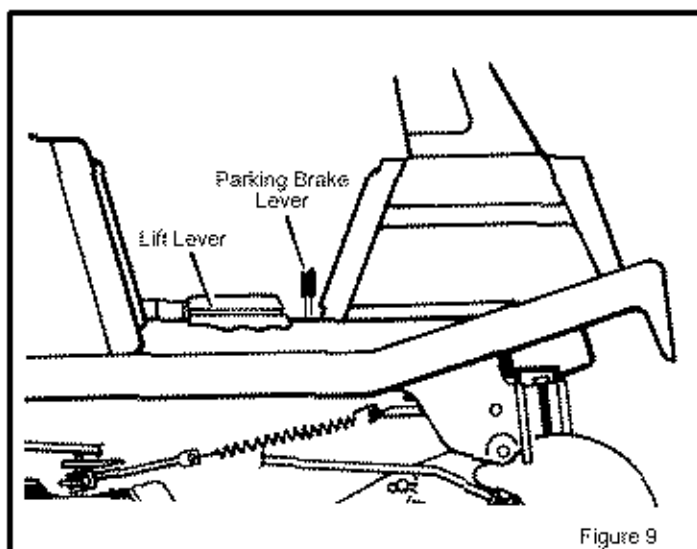

Figure 9
2. Lift the **parking brake lever** (Figure 9).
**WARNING:** Before you leave the operator's position, move the shift lever to the neutral (N) position. Set the parking brake. Move the attachment clutch to the DISENGAGE position. Stop the engine and remove the ignition key.